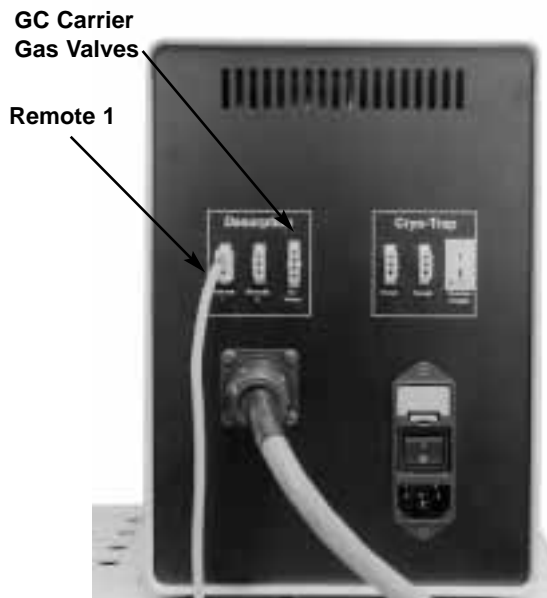

Fig 3.51 Plug the remote start cable into the plug labeled "Remote 1" on the rear of the S.P.T.D. controller.
23. Plug the cable from the GC carrier gas solenoid valve (78199924), if it was installed earlier, into the fitting labeled “GC Valve” on the back of the S.P.T.D. controller. See **Figure 3.51**.
24. Plug the remote cable (782012) into the fitting labeled “Remote 1” on the back of the S.P.T.D. controller. See **Figure 3.51**.